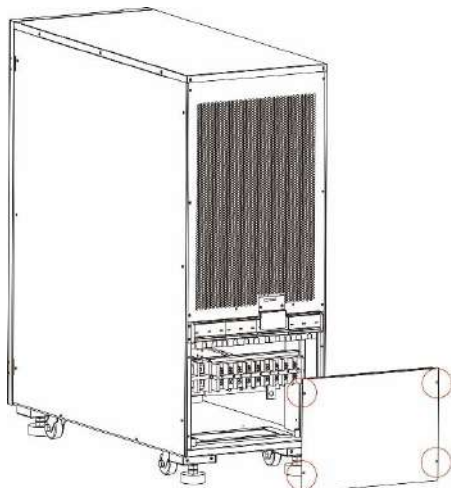
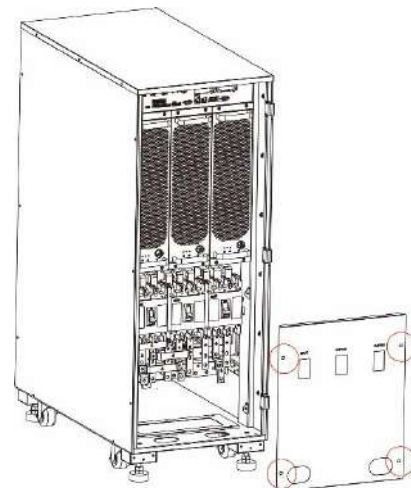

Fig. 3-6 Remove the cover of distribution unit (40/60 kVA)
Fig. 3-7 Remove the cover of distribution unit (80/100/120 kVA)
Step 7: turn the wrench counterclockwise to raise the four support feet at the bottom of UPS until all the four wheels at the bottom of the case are evenly landed and the support feet are completely suspended. See Fig. 3-7.
Step 5: open the front door and remove the cover panel of the distribution unit, as shown in Fig. 3-6 and Fig. 3-7.
Step 1: remove the cover plate of distribution unit (80/100/120kVA need to open the front door first), as shown in Fig. 3-6 and Fig. 3-7.